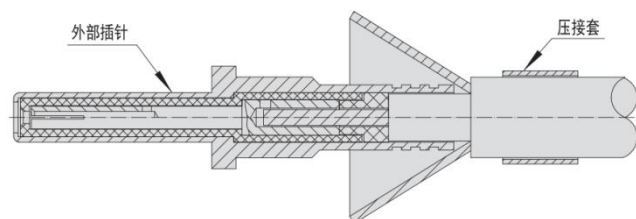

Figure 1.6
⑥ Assemble the outer pin on the center hole of the crimp and set the insulator according to Figure 1.6 until the inner contact and insulator are completely close.